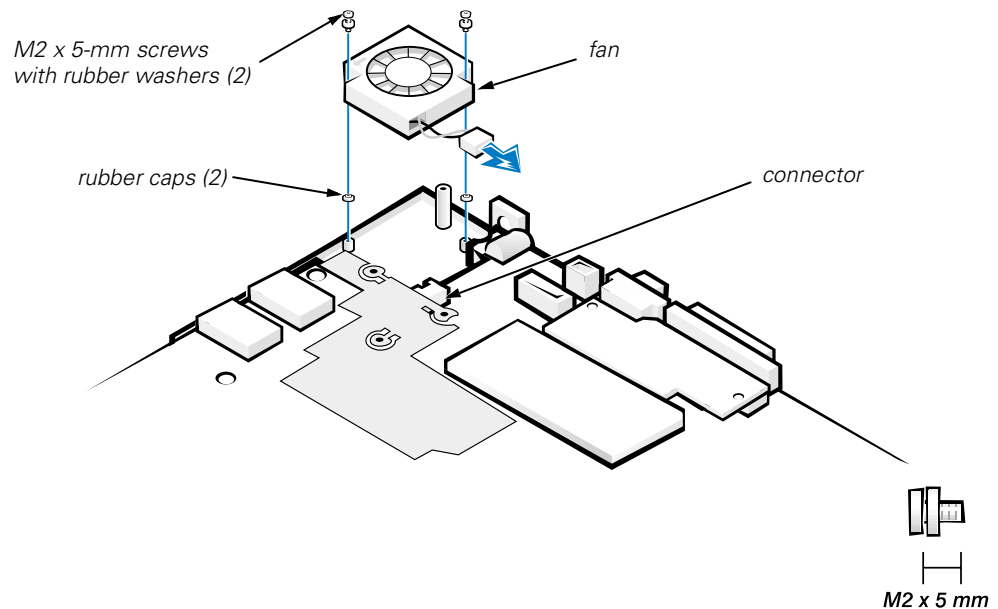

Figure 20. Fan Removal
5. Carefully disconnect the fan wire connector from the system board (see Figure 20).
6. Remove the two M2 x 5-mm screws with rubber washers that secure the fan to the bottom assembly (see Figure 20).